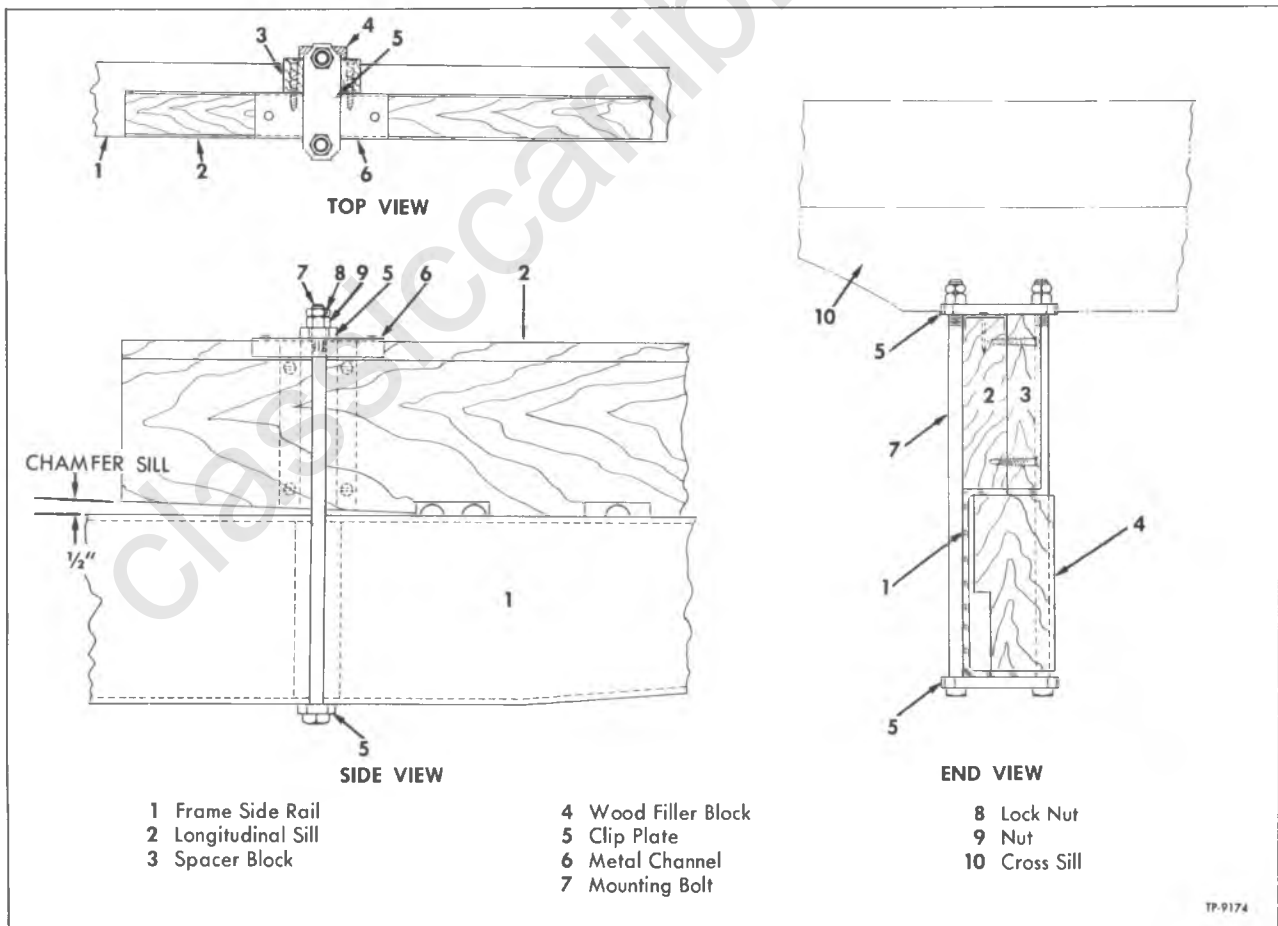

Figure 1—Typical Body Mountings
4. Sill must rest squarely on frame flange and not overhang outside of frame. If sill width does not cover entire width of frame, install a spacer block as shown in figures 1 and 2. Blocks should
5. Wood sills must be chamfered 1/2" at the front end, tapering to meet the frame 12 to 18 inches from end of sill (fig. 1). Tapered front of sill is required for all Van or torsionally rigid bodies. Notch or spot drill sill to clear the rivet heads.
6. To prevent mounting clip plate becoming embedded in longitudinal sill, install a sheet metal channel on top of sill at each mounting point (figs. 1, 2, and 3). Rabbet grooves along each side of top edges of longitudinal sills to permit flush mounting of sill channels.